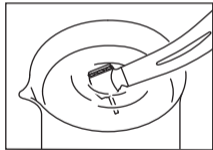

Fig. 5
- 3) Rotate the handpiece and immerse half of the handpiece head. (Fig. 5)